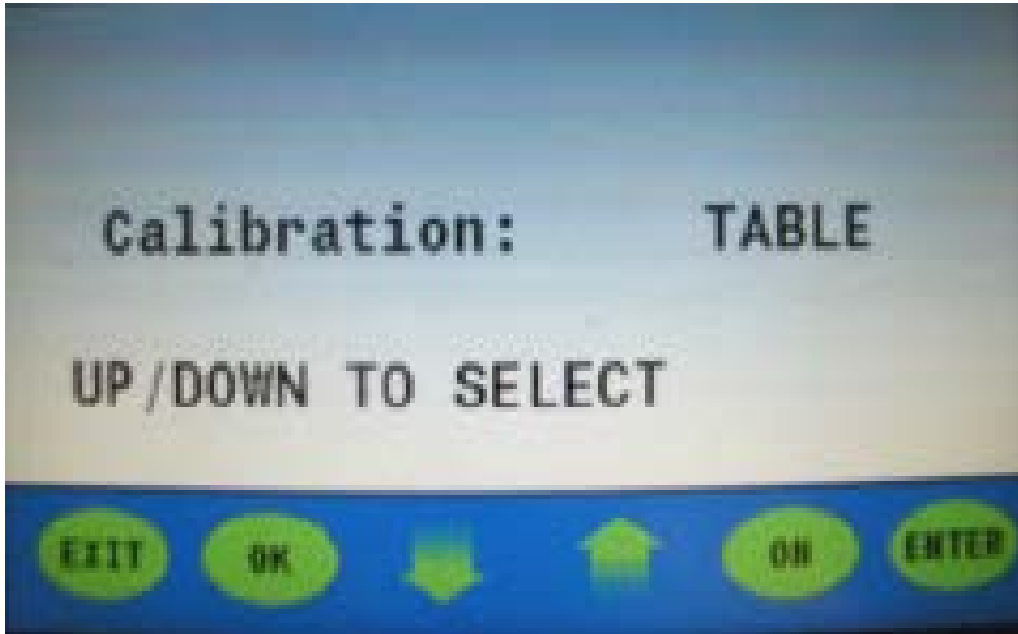

Figure 5
8. Press the **up** or **down arrow** to set the last value in the number sequence, "0" to "8." Press the **Enter button**; the display will read: "Calibration: Table" (**figure 5**).